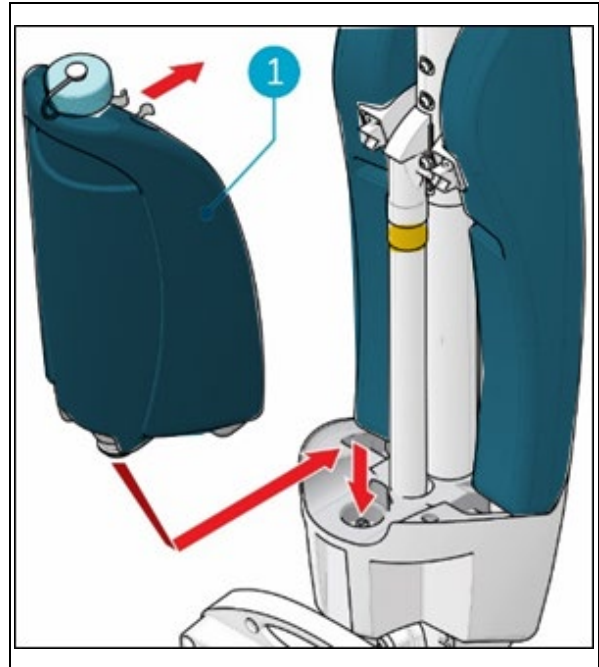

Figure 12
1. Put the tank (Figure 12, pos 1) on the i-mop® XL with the valve first.